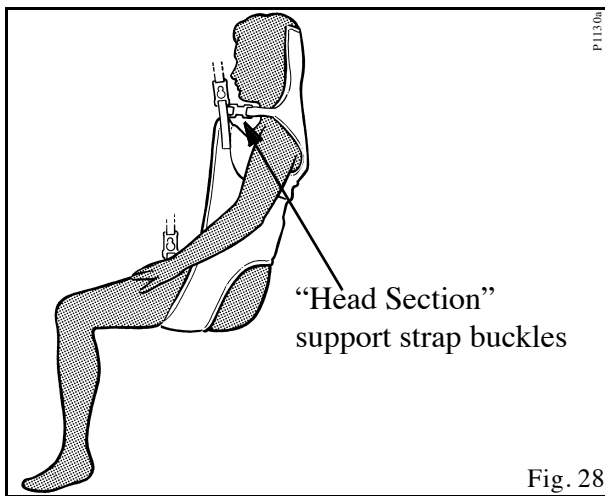

Fig. 28
To toilet a patient, use the toilet sling with head rest. The toilet sling is fitted in a similar manner to the standard 4-point sling, except that the sling is not taken to the base of the patient's spine but fitted so that the top of the head support piece of the sling is level with the top of the patient's head (see Fig. 28), as a guide to positioning.
- both of the patient's arms are positioned outside the sling, over the padded areas but under the "head section" support straps (see Fig. 28). This will help to prevent the patient from sliding through the sling.
Warning: Always ensure that the patient, when suspended, is in an upright sitting position as shown in Fig. 28.